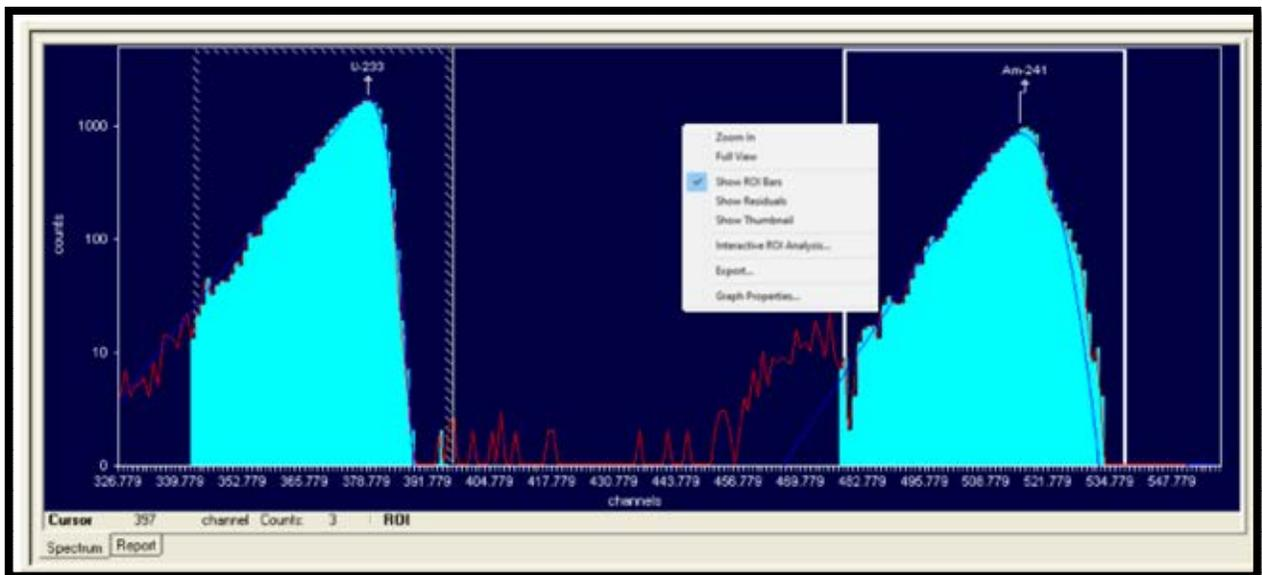

Figure 49. Right-Click and Select Interactive ROI Analysis to Reanalyze
- It is now ready to reanalyze. Right-click in the spectrum window and select **Interactive ROI Analysis** from the context menu (see Figure 49). After reanalysis, the energy or channel labels on the X-axis may change.